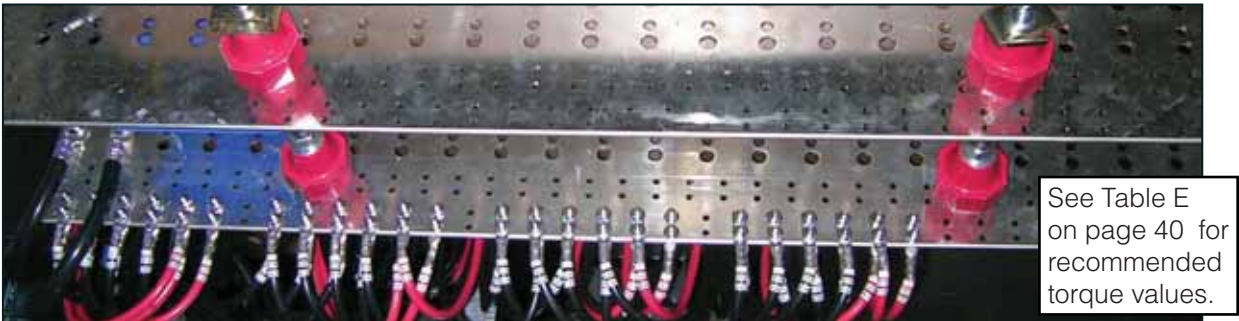
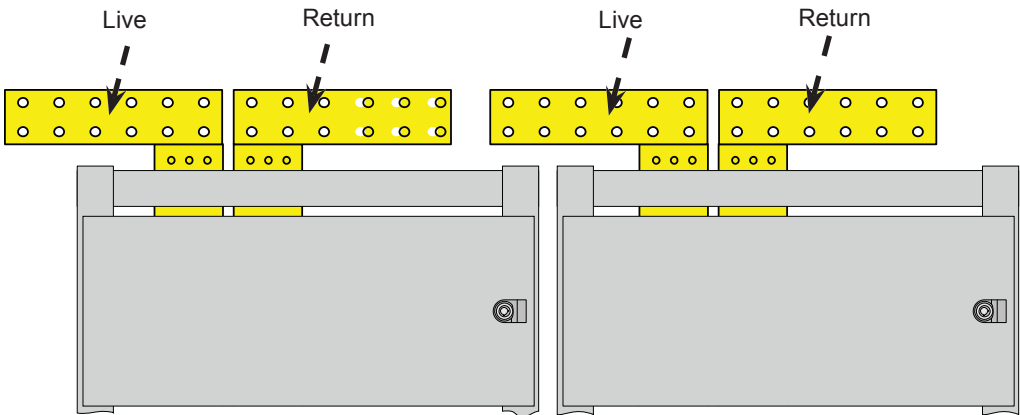
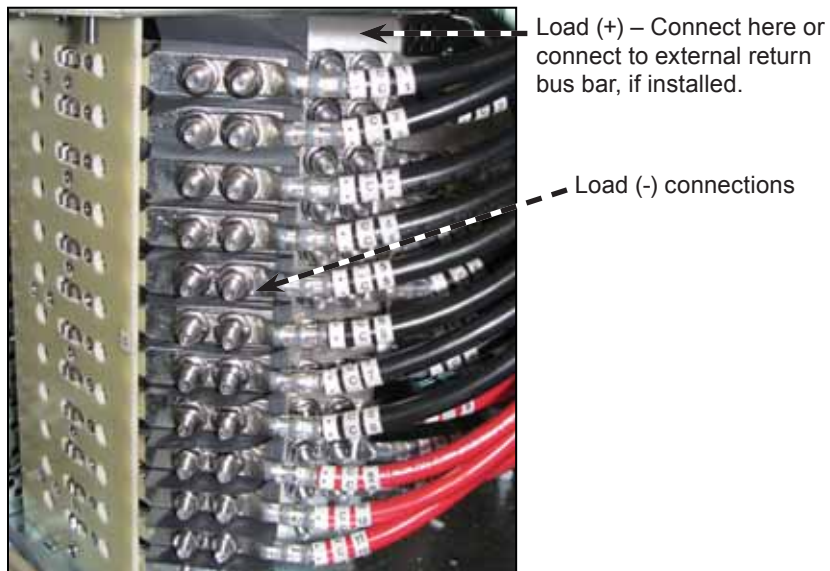

Figure 33 — External battery return bus bar (dual level shown)
Figure 34 — Battery terminations on the bay (front view)
Figure 37 — Breaker load cable and return connections
1. Connect the battery return cables to an external battery return bus bar, if installed, (Figure 33) or to the return bus bar termination on the bay:
External Battery Return Bus Bar (Figure 33)	Battery Return Termination on the Bay (Figure 34)
4. Connect the load return cables to the (+) side of the bottom breaker (Figure 37) or to the external battery return bus bar (Figure 33).